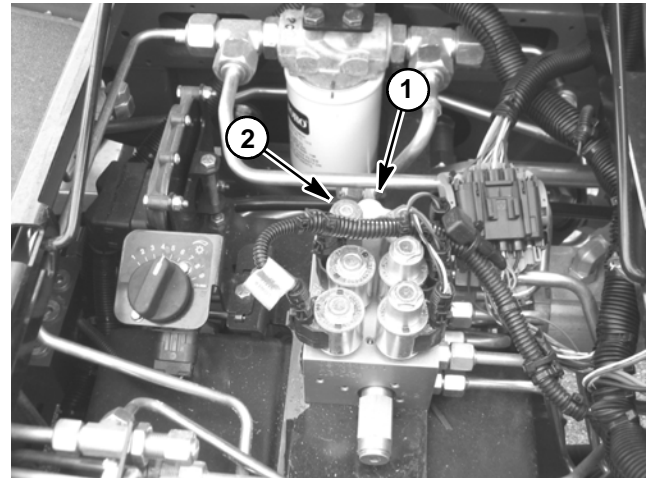

Figure 45
3. Raise and support seat to gain access to lift control manifold (Fig. 45). Connect a 5000 PSI (350 bar) pressure gauge with hydraulic hose attached to lift manifold test port G. Route gauge hose to allow seat to be safely lowered.